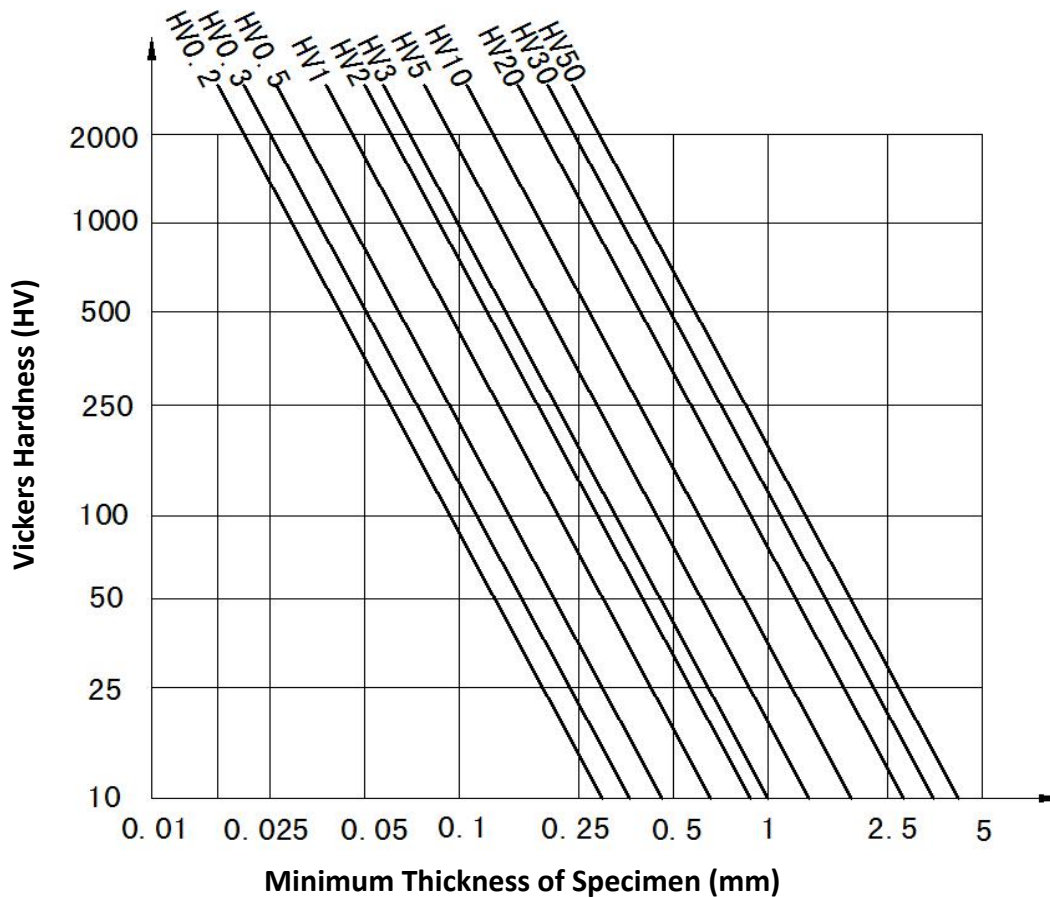

Fig 9
3.3 The minimum thickness of the specimen should be more than 10 times the depth of the indentation (Fig.9). There can't be visual deformation traces on the back of specimen after testing.